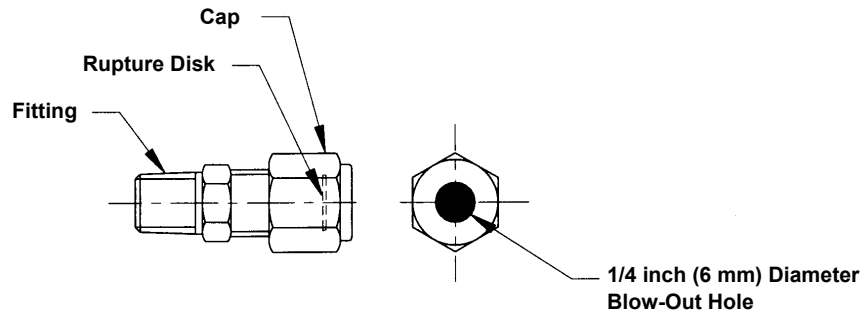
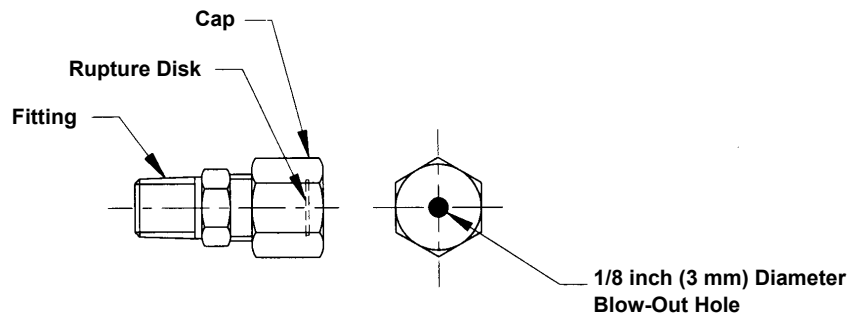

FIGURE 4-10: LINCOLN ST. LOUIS BLOW-OUT FITTING ASSEMBLY
FIGURE 4-11: LUBRIQUIP BLOW-OUT FITTING ASSEMBLY
A. Be sure to apply the proper rupture disk to match your blow-out fitting type (see Figure 4-10: on page 4-29 and Figure 4-11: on page 4-29), and application pressure. Generally the rupture disk should be rated about 1000 psig (70 bar_g) greater than the highest MAWP cylinder.